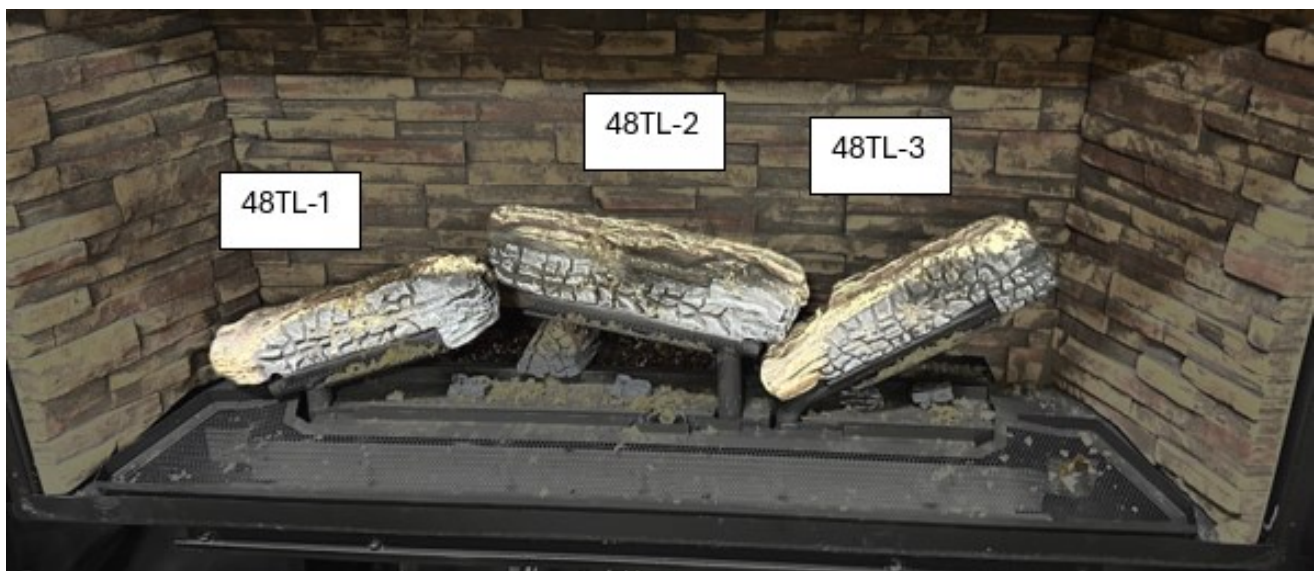

Figure 4 - Log Placement 2
3. Reinstall the left, center, and right burners. Reinstall the front ember bed media tray. Install logs #48TL-1, #48TL-2, and #48TL-3 on the burners via pin locations as shown in Figure 4. Logs #1 & #3 are slightly slotted. Ensure Logs #1 & #3 slide down on the burner so they are fully seated. See Figure 5. When installing Log #2 adjust the log side to side to provide even gaps between the three logs. See Figure 6.